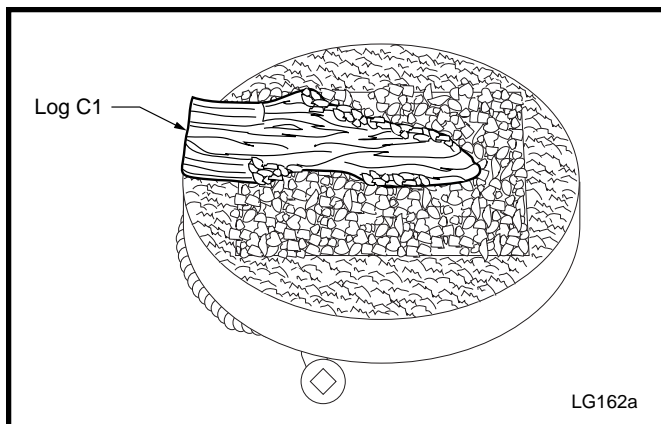

Fig. 11 Place log C1 on locator pins on burner.
4. Place log C1 on burner, using locator pins and holes in bottom of log. (Fig. 11)